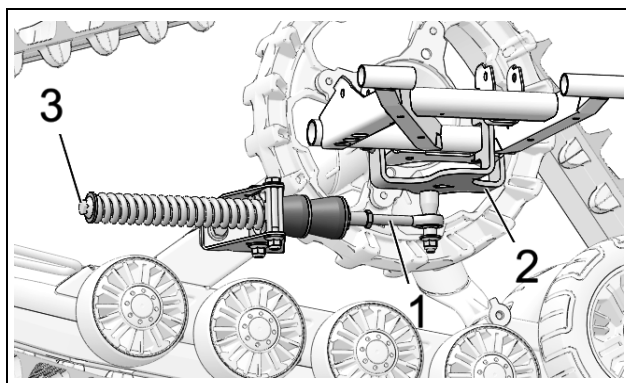

Figure 10
- Stabilizing arm (1) must be attached to rear anchor bracket (2) installed on vehicle. See Figure 10.